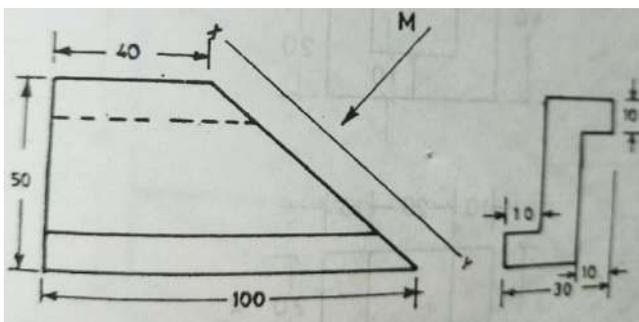

Fig. 1
3. Front view and Side view of a component is given in **Fig. 1**. Redraw those as per